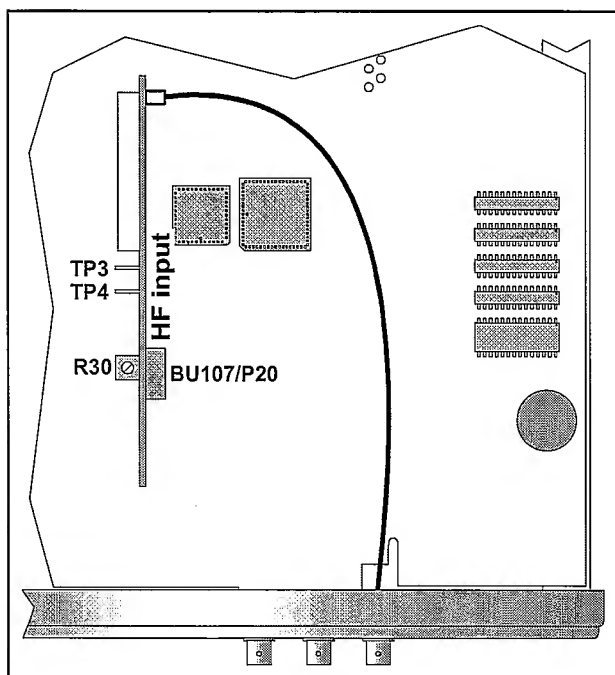

Figure 6-11 Test points and trimmers for the 1.3 GHz HF-input.
- Turn the potentiometer R61 fully counterclockwise. See Figure 6-11.